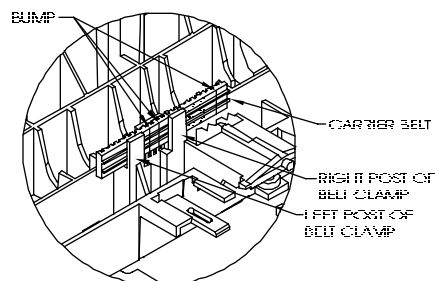

Figure 5-14. Carrier Belt Clamp.
10. Once the Carrier Assembly is removed from the Slide Shaft, turn it over so that you can see the Belt Clamp. See Figure 5-14.
1. To install the Belt onto the Carrier Assembly, the “bumps” on the belt (where the ends of the belt are joined together to make the belt continuous) must be positioned between the left and right posts of the Belt Clamp. See Figure 5-14.
3. Check the position of the Carrier Belt to make sure it matches Figure 5-14.